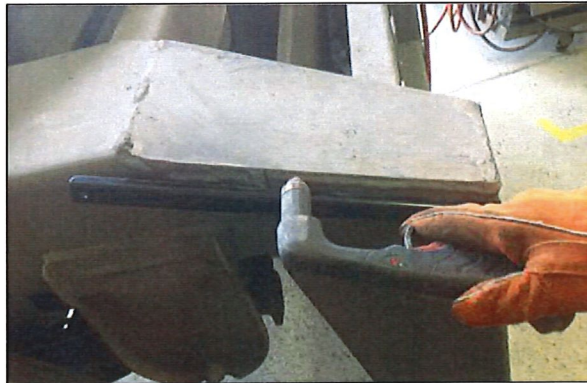

Figure 3B
- Using a plasma cutter, and a magnetic bar as a guide (optional), cut through all 4 welds attaching the Top Plate to Dolly Main Frame and Counterbalance assembly.(Fig 3B)